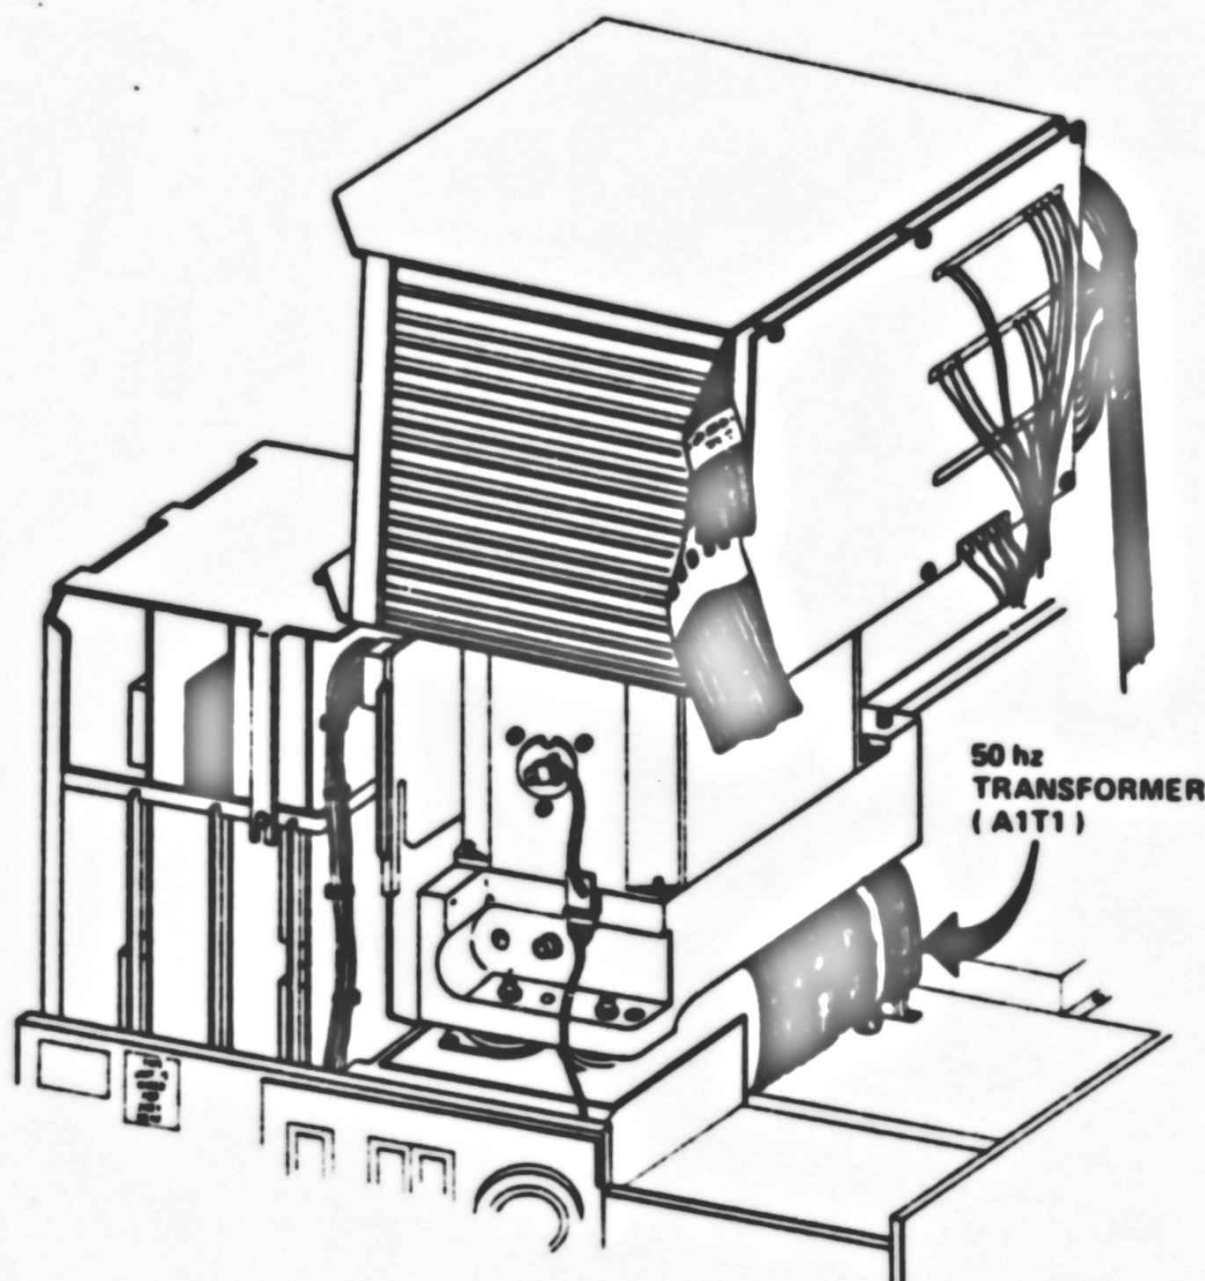

Fig. 2
- 5) Locate the main 50hz transformer (A1T1) as shown in figure 2.